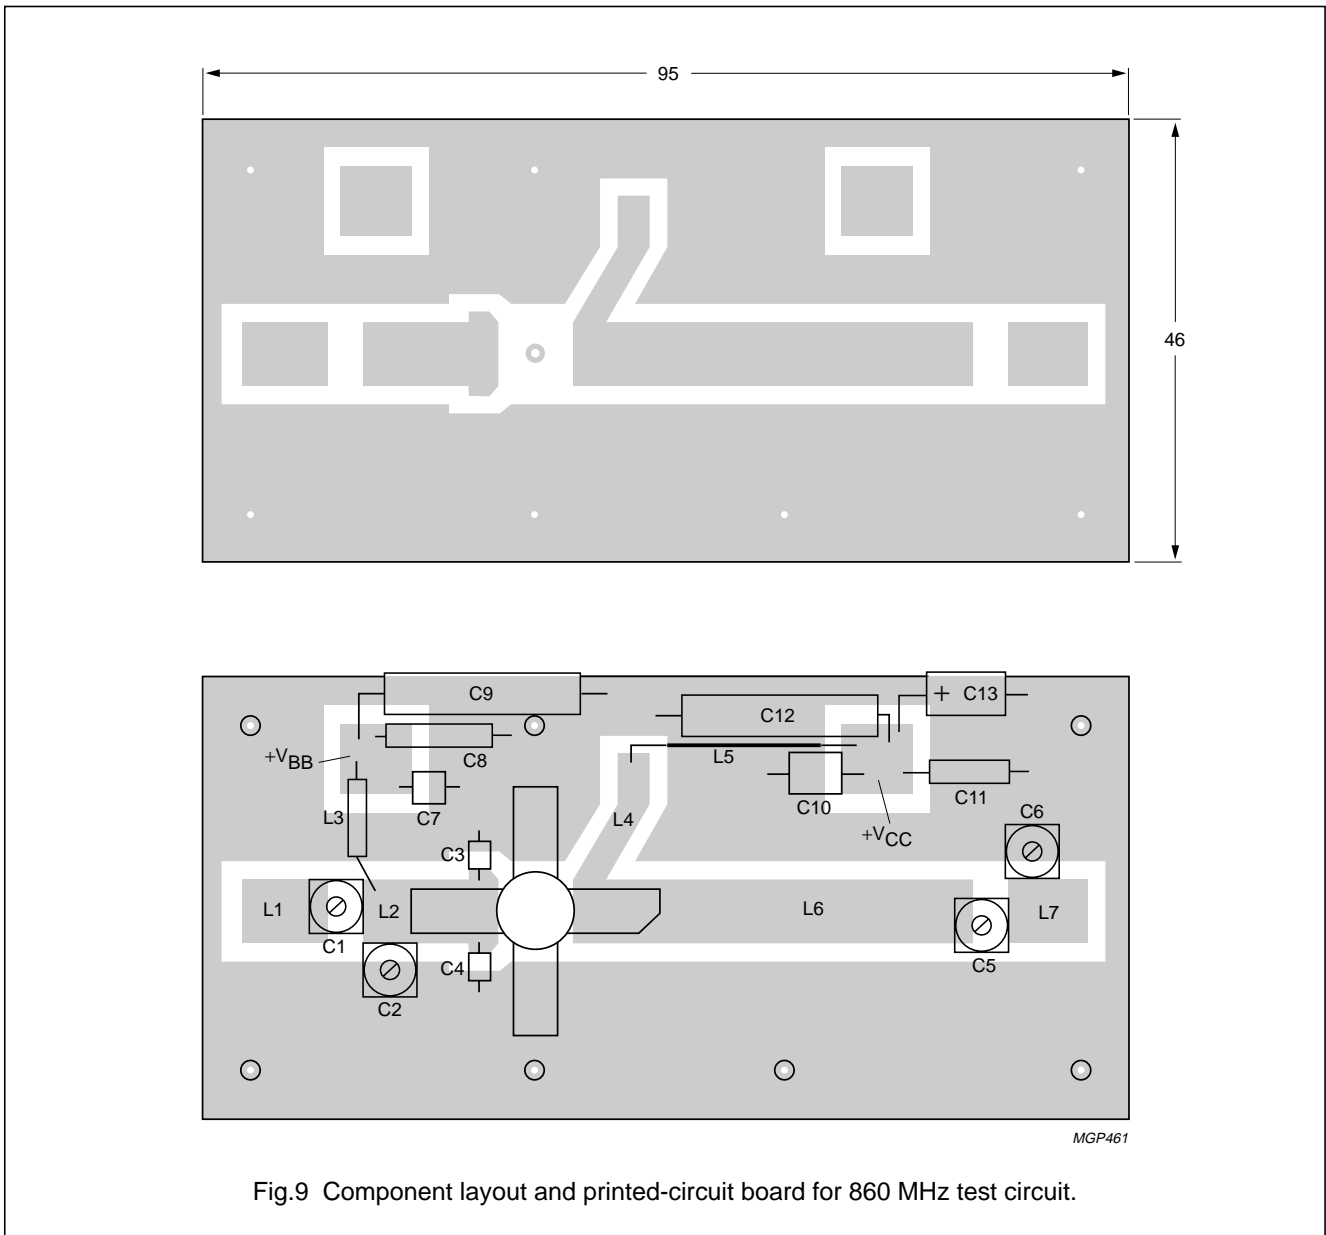
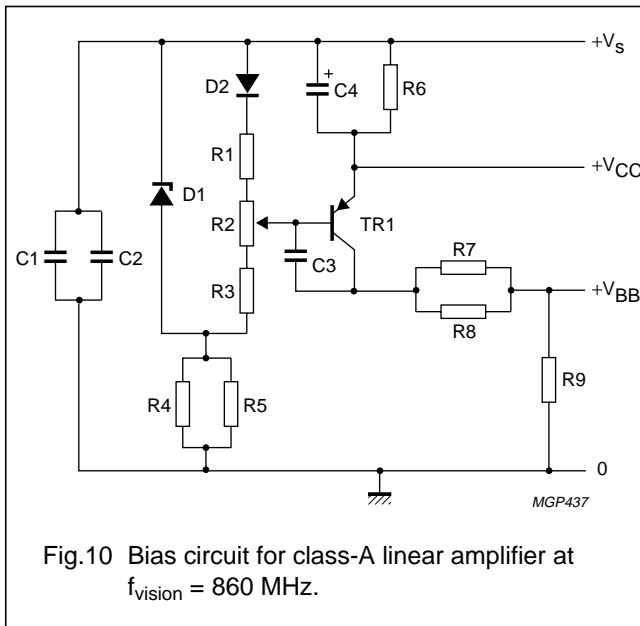

Fig.9 Component layout and printed-circuit board for 860 MHz test circuit.
Fig.10 Bias circuit for class-A linear amplifier at $f_{\text{vision}} = 860 \text{ MHz}$.
- L4 = stripline (see Fig.9 printed-circuit board layout)
- Component layout and printed-circuit board for 860 MHz test circuit are shown in Fig.9. For bias circuit see Fig.10.